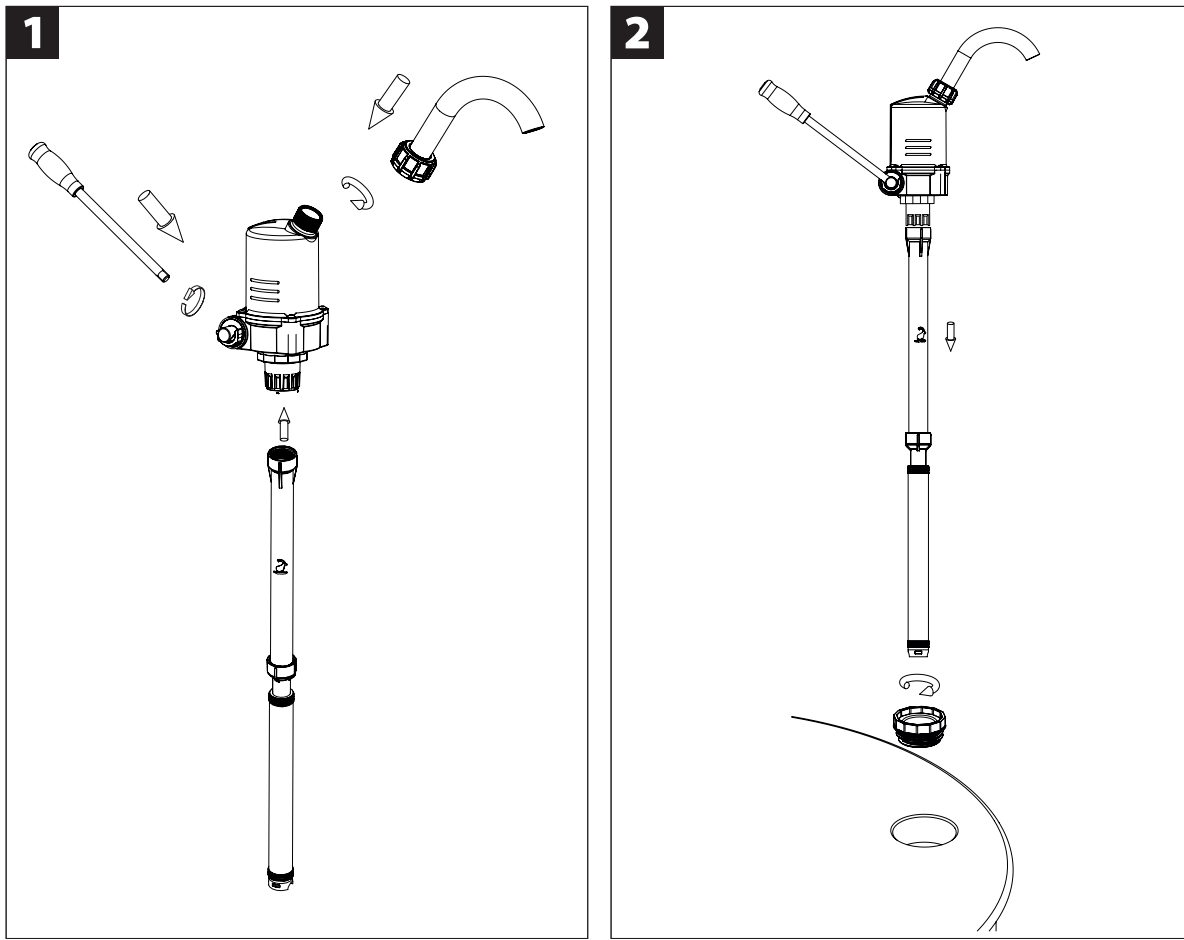

Fig. 5.-1: Assembly example
- Mount the telescopic suction tube to the pump. See fig. 5.-1 (1)
- Fit the curved discharge spout with the union nut to the pump. See fig. 5.-1 (1)
- Screw in the pump lever. See fig. 5.-1 (1)
- Screw the barrel screw coupling into the barrel, hand-tighten. See fig. 5.-1 (2)
- Align the pump to the desired position and press downwards. See fig. 5.-1 (2)